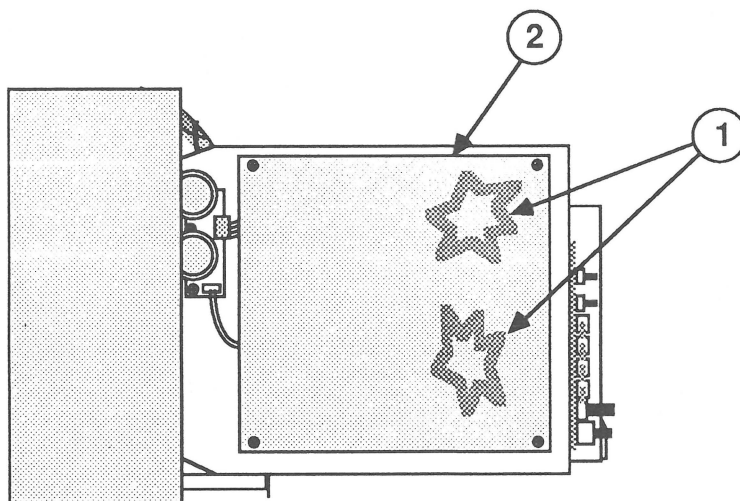

FIGURE 15
WARNING: In addition to following the standard safety precautions outlined in Section 1, Basics, take care to avoid high-voltage areas on the solder side of main logic board "D." In particular, avoid the areas of very high voltage outlined below in Figure 15, #1.
2. Place the monitor so that you can see main logic board "D" (Figure 15, #2).